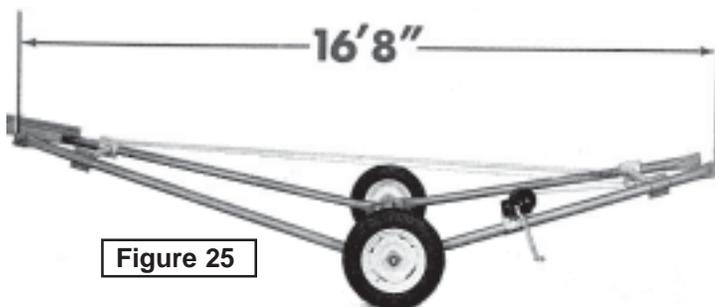

Figure 25
7. Turn crank on drum to attain 16'-8" from center of boom roller shaft to center of holes in end of sub frames as indicated in Figure 25. A minimum of three complete wraps of cable must be on the winch drum with this dimension.